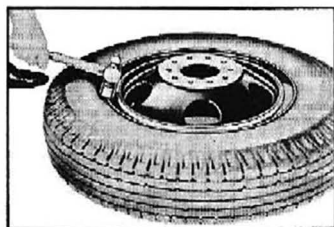

Fig. 76—Releasing Tire Clamp Ring
2. Using a hammer, tap around the side ring progressively to move it in toward the center of the rim until it clears the clamp ring (fig. 76).